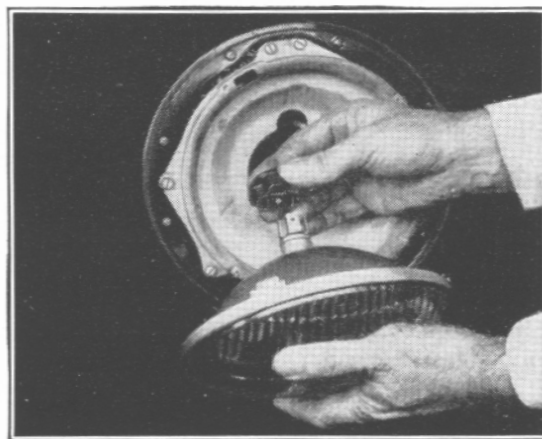

Figure 33
4. Remove the reflector plug from the reflector unit as in Fig. 33.